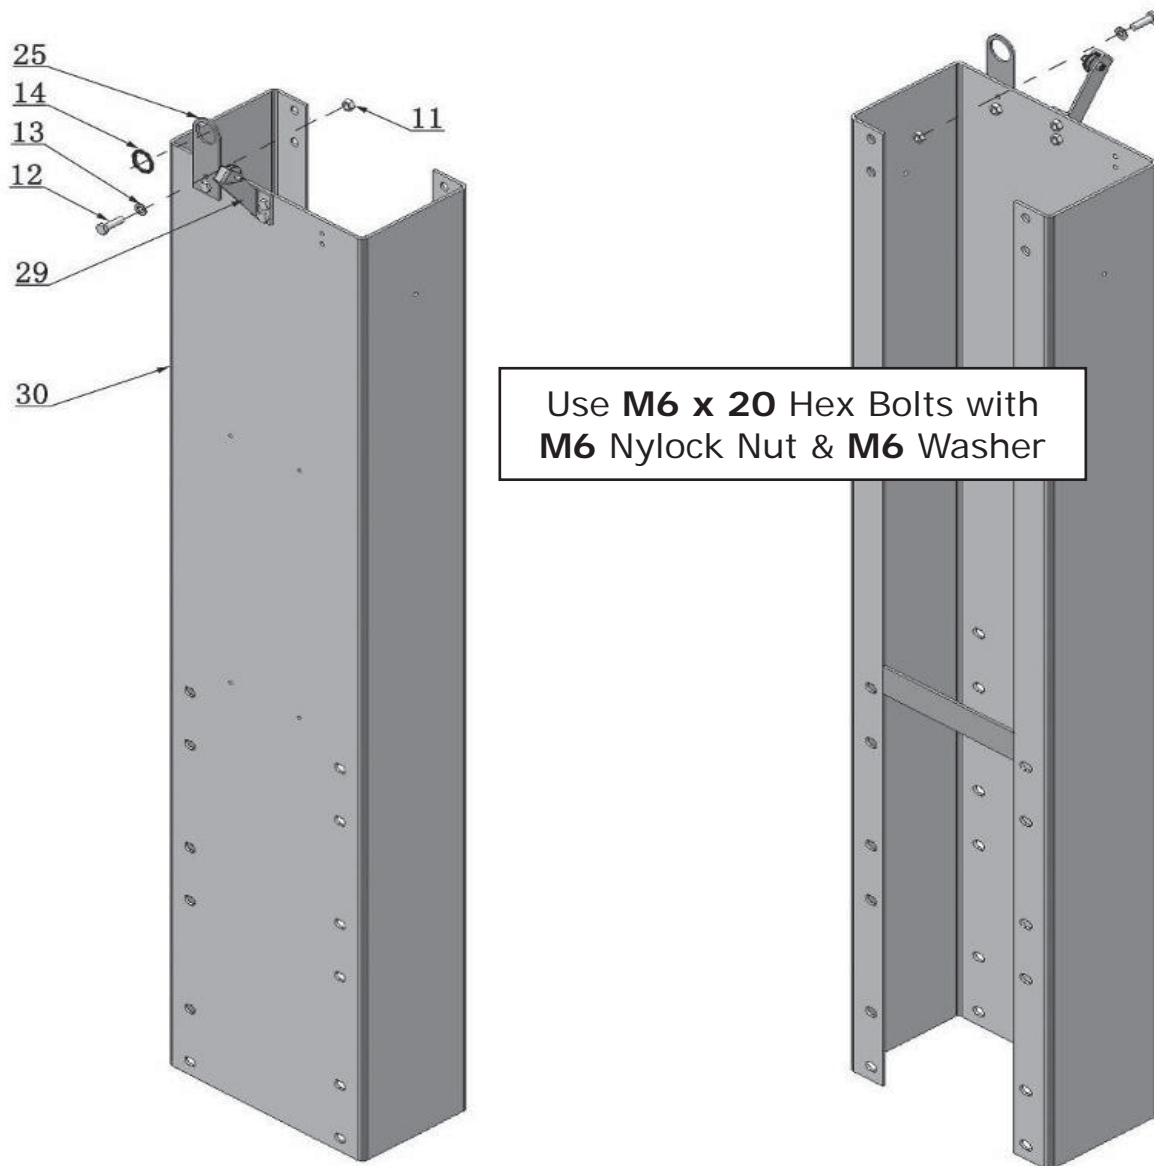

Fig. 15
D. Install the hydraulic hose and lock release cable brackets on the extension columns (See Fig. 15).